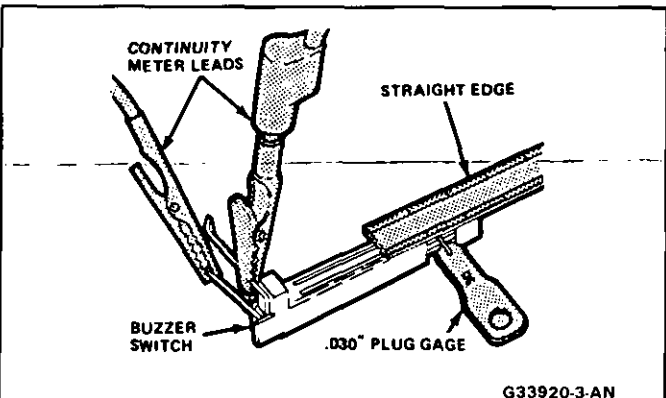
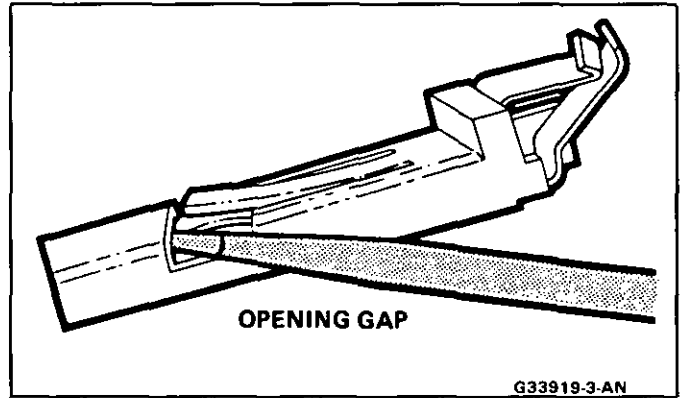

Fig. 8 Checking Contact Gap
Fig. 9 Adjusting Contact Gap
8. If the switch contact gap is too large, reset the contact gap by pressing a 0.8 mm (.030") wire-type plug gage with a flat piece of stock onto the actuator pad (Fig. 8). If contact is not made, adjust the switch as shown in Fig. 9 until positive contact is made. Use a continuity meter (light).